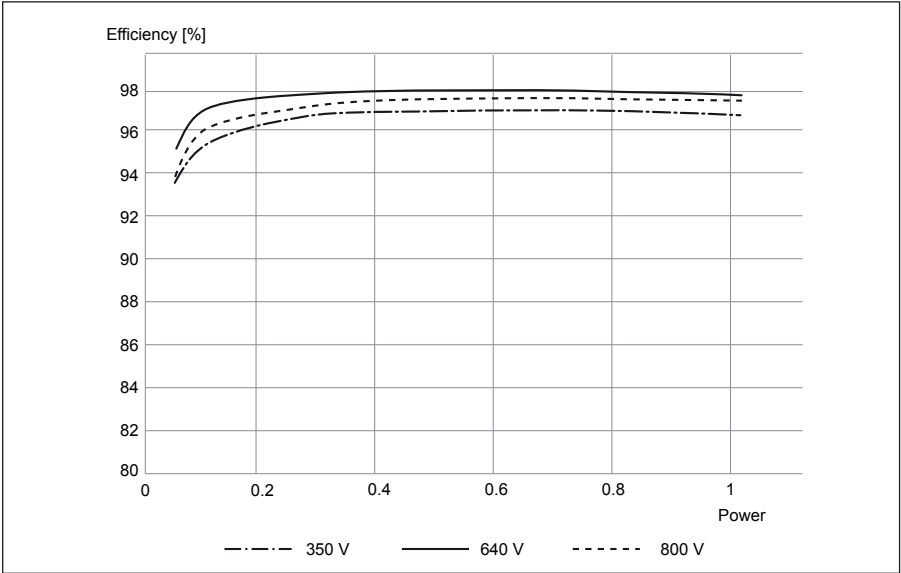

Figure 6.15.: SOLIVIA 15 TL Efficiency Curve
The communication module supports the communication functions with a computer, also provides 1 EPO (Emergency Power Off) and 2 sets of dry contacts. The parts of the communication module are shown in Figure 6.15. The function of each part is detailed in sections 6.5.1 ... 6.5.3.
1. Unscrew and remove the two Phillips screws highlighted above in Figure 6.15.